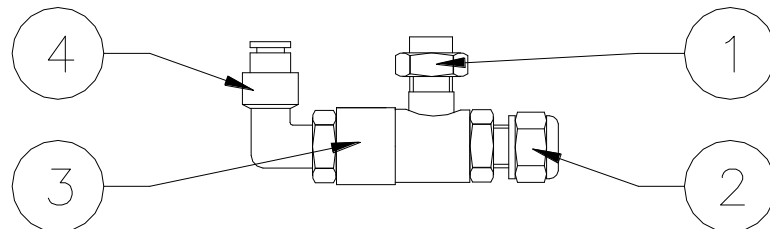

Fig MBCSP6
11.0 QUICK EXHAUST VALVE COMPONENTS (Fig MBCSP6)